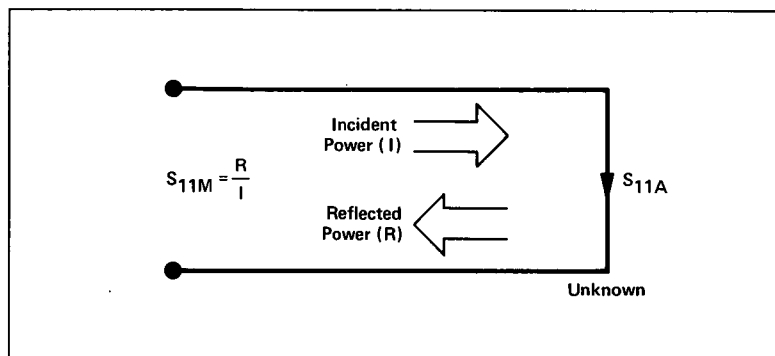

Figure 5-33
The reflection coefficient is measured by first separating the incident signal (I) from the reflected signal (R), then taking the ratio of the two values (Figure 5-33). Ideally, (R) consists only of the signal reflected by the test device (S11A).